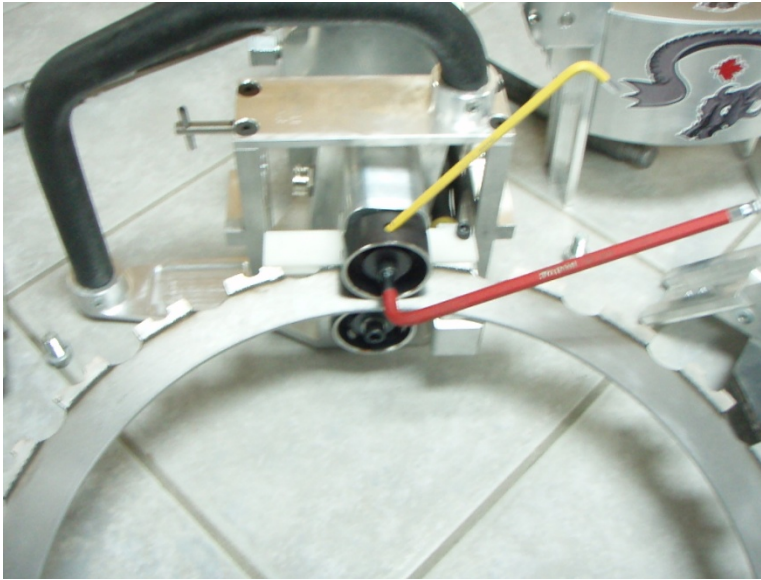

Figure 9
Step 9: With the transmission assembly in neutral position, reinstall upper drive roller using the 1/4" allen wrench provided. Tighten securely by locking drive wheel in position (figure 9).